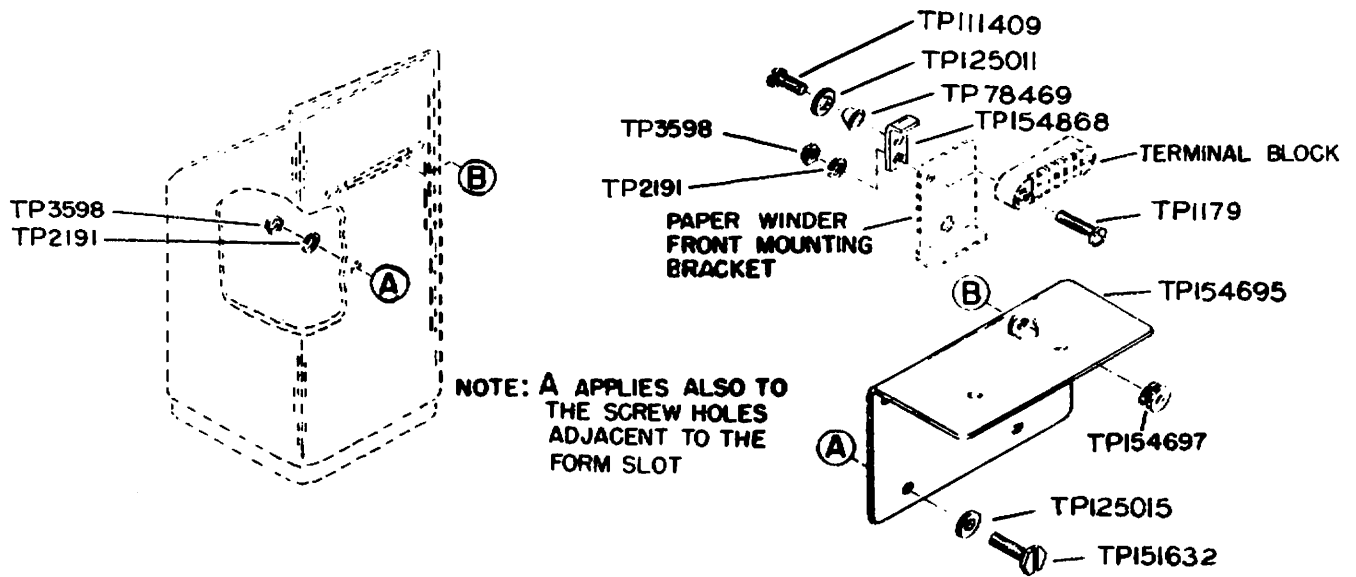

Figure 2 - TP153901 Modification Kit
2.04 A 15 paper winder can be mounted on a 28 teletypewriter cabinet by the use of the TP153901 modification kit which contains the necessary mounting parts shown in Figure 2.
(3) Remove and dispose of the two TP103120 retainers and the two TP89515 screws located in the rear panel of the cabinet, just above the electrical service unit.
(4) Mount the TP154695 bracket on the back of the cabinet, using six each of the TP151632 screws, TP125015 flat washers, TP2191 lockwashers, and TP3598 nuts that are furnished. (See Figure 2.)
(5) Remove the paper-winder cover by removing the screw from the rear of the paper winder and backing off the other two screws. (The cover has two slotted mounting holes.)
(6) Viewing the paper winder from the rear, replace the left-hand mounting screw of the terminal block with the TP1179 screw that is furnished. Mount the TP154868 plate, using the remaining TP2191 lockwasher and TP3598 nut. Secure the TP78469 rubber foot
to the TP154868 plate, using the TP111409 screw and TP125011 flat washer. (See Figure 2.)